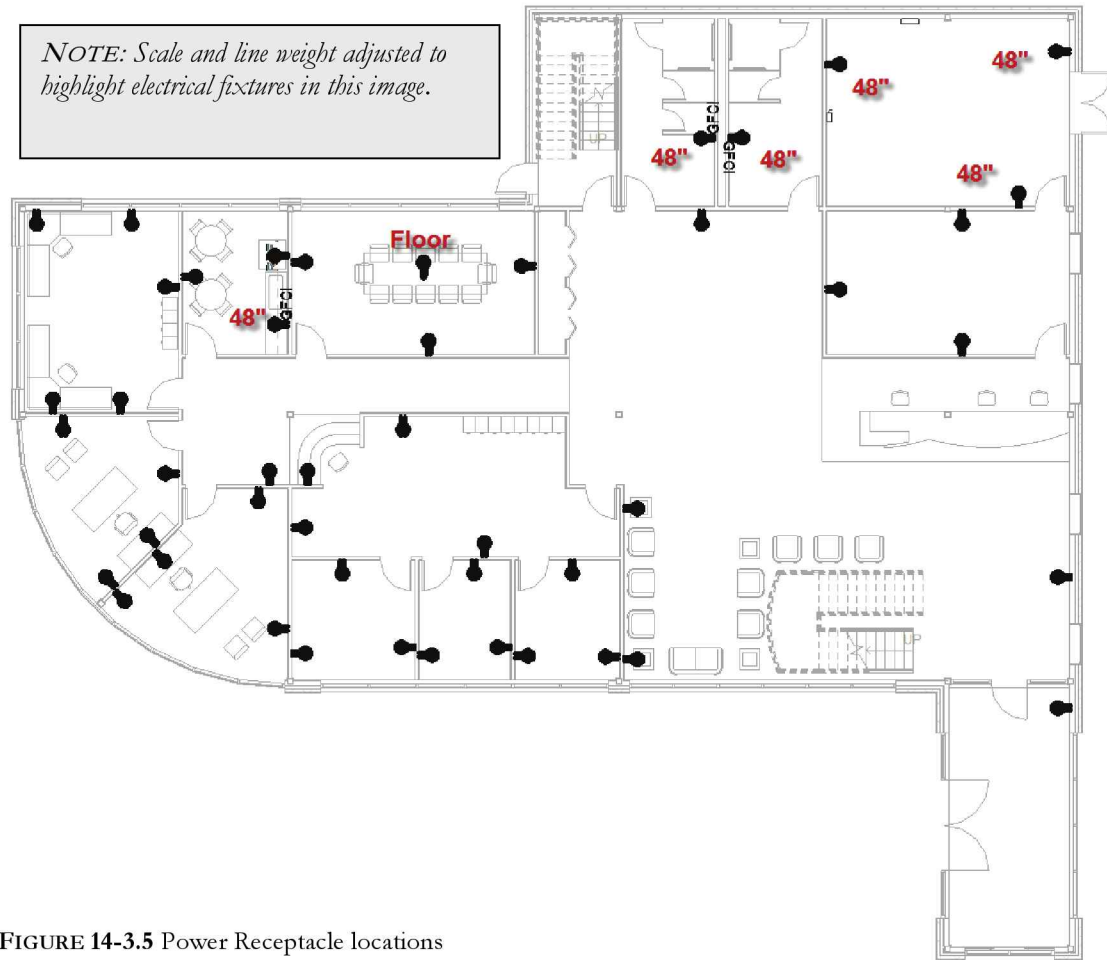

FIGURE 14-3.5 Power Receptacle locations
16. Place the outlets approximately as shown in Figure 14-3.5.